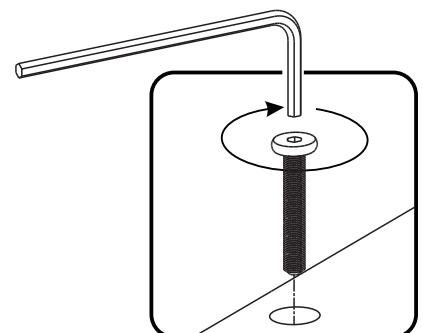

Figure 3
Attach Base (W) to unit with 4 pcs. of **02**. (See Figure 3)